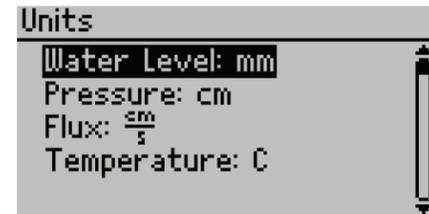

Figure 25 Editing Units options
- **Units.** Edit the preferred units on all device screens and the units that appear in downloaded data (Figure 25). Select the Units option in the Configuration tab. Press Enter to cycle through the available options on the highlighted measurement. Press BACK to return to the previous menu.